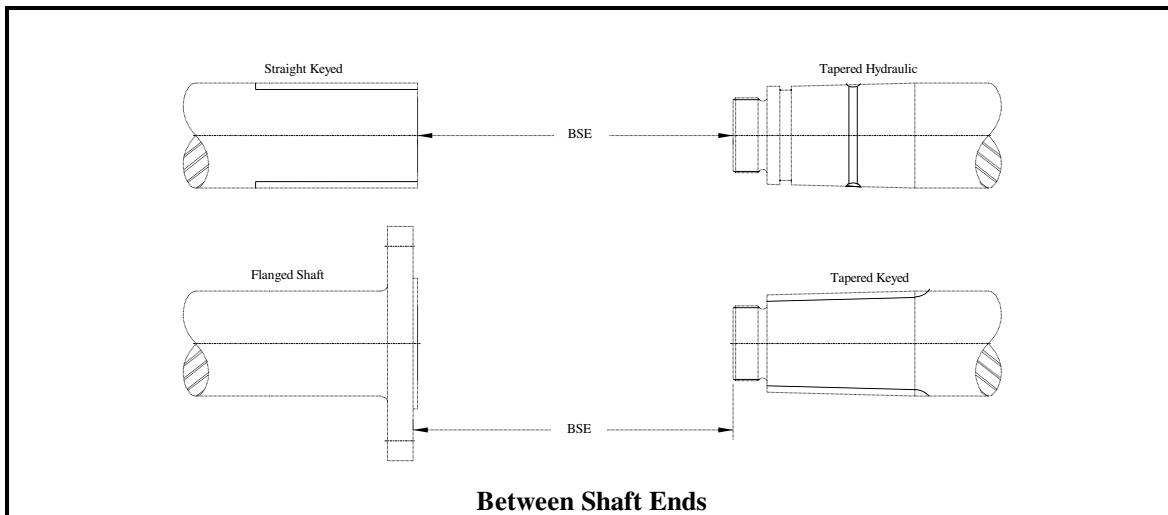

Figure 4-1
- 4.1.4 Set the distance between the shaft ends (BSE) to the dimension shown on the Ameridrives Sales Drawing. The between shaft end dimension (Figure 4-1) is the distance between the very ends of the drive and driven equipment shafts. In the case of a flanged connection it is the distance to the face at the bolt circle diameter.